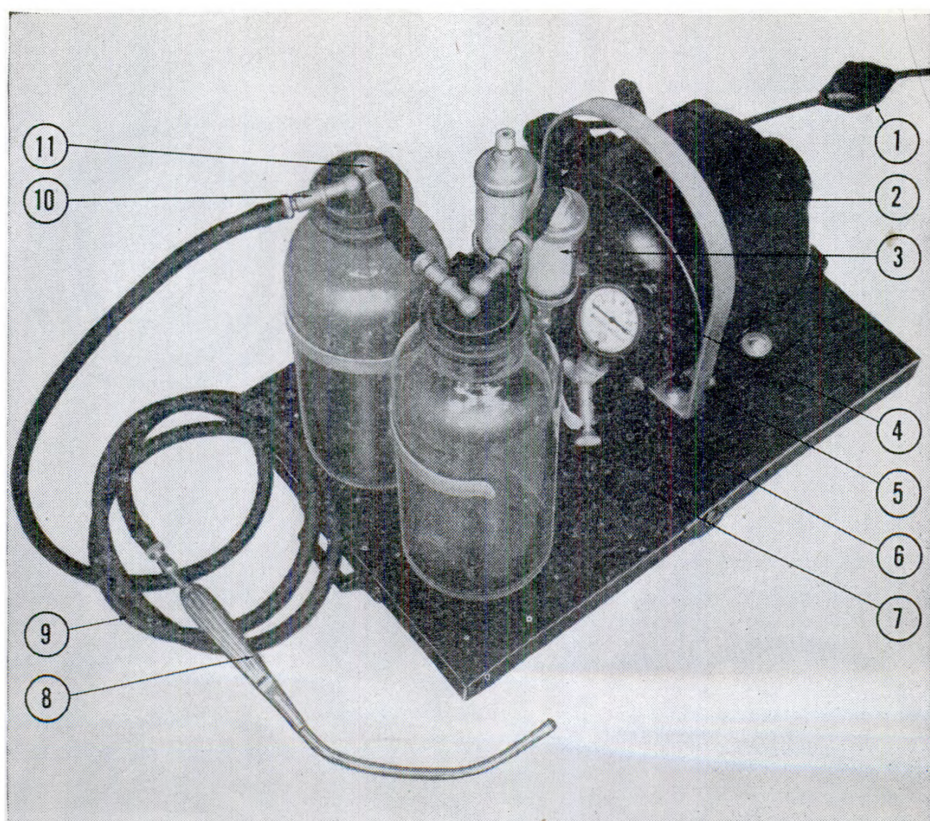

Figure 4. Suction Apparatus, Sorenson, assembled and ready for use.
c. Sorenson. Connect the short rubber tubing on the suction purifier to the male fitting on the suction bottle (fig. 4).